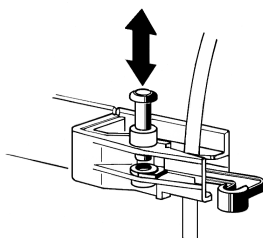

figure 7
- 5 - It is possible to lock the faucet by pushing the proper pin on the faucet body (see figure 7).